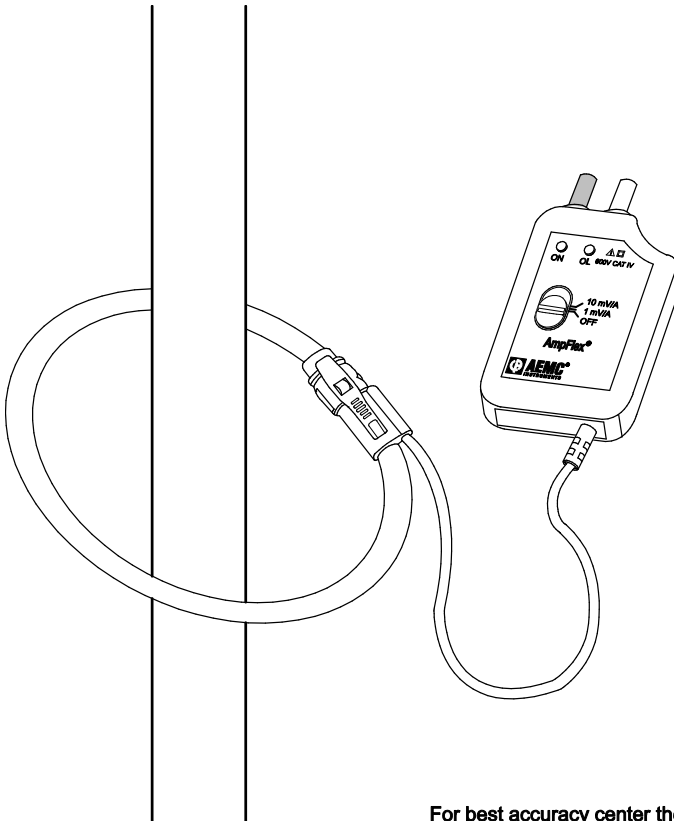

Figure 2
- For best accuracy, center the AmpFlex® around the conductor to be measured. (See Figure 2).